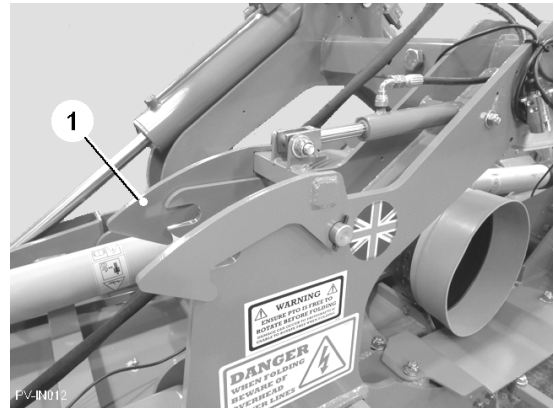

Fig. 4
4. Fully raise the wings. This will ensure the latch hooks (item 1, fig. 4) are unloaded and are free to rotate away from the latch pins.
5. Lower the wings. The transport latches (item 1, fig. 4) will automatically open releasing the wings.
5. Ensure transport latches (item 1, fig. 4) locate correctly to lock the wings into the vertical transport position.